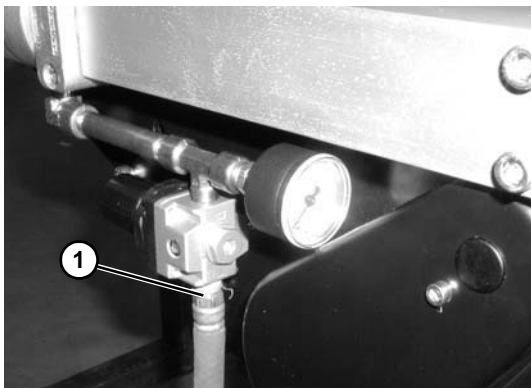

Figure 31
1. Remove air supply and remove hose (**Figure 31, item 1**) from center drive.